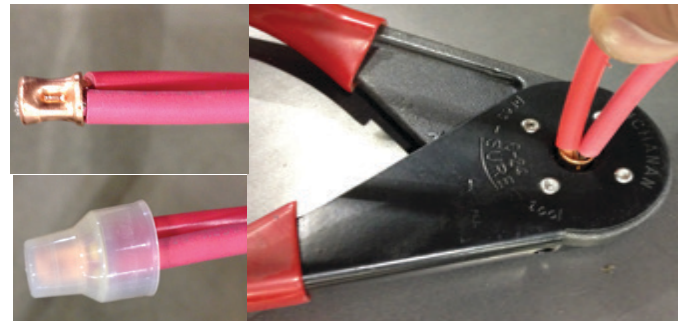

Figure 2
STEP 2: Place the loose bolts back into either the Float Arm Channel or Floating Platform and hand tighten so they are ready for assembly once the equipment is passed through the hatch. **(See Figure 2)**
STEP 2: Place metal crimp around the wires, crimp and place protective cover over crimp. (See Figure 2)